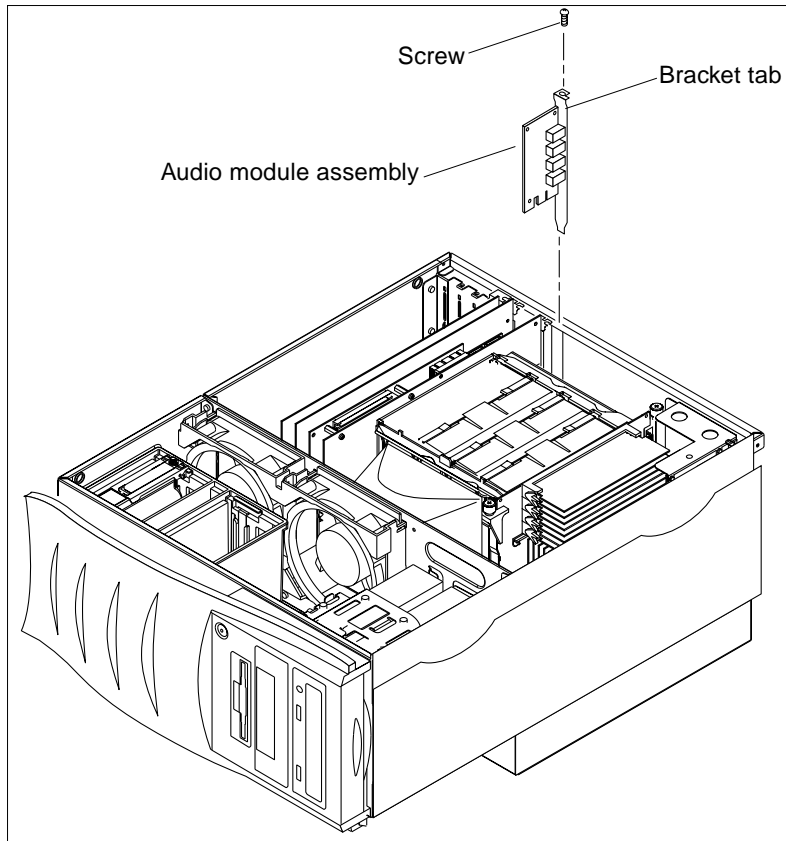

FIGURE 9-7 Removing and Replacing the Audio Module Assembly
4. Remove the audio module assembly as follows (FIGURE 9-7):
1. **Replace the audio module assembly as follows (FIGURE 9-7):**